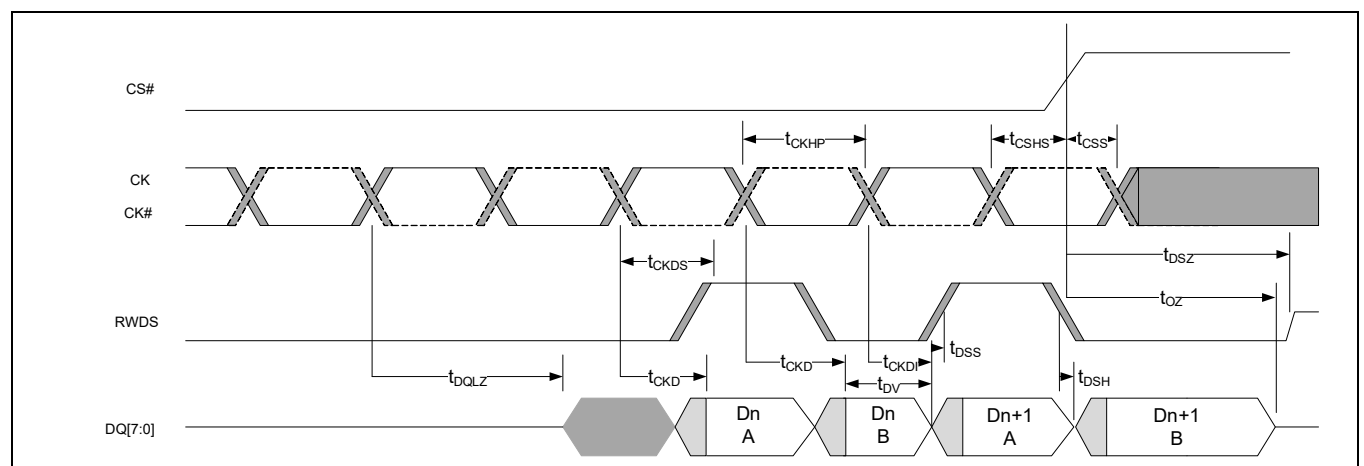

Figure 32 Data valid timing [68-70]
66. Refer to Figure 32 for data valid timing.